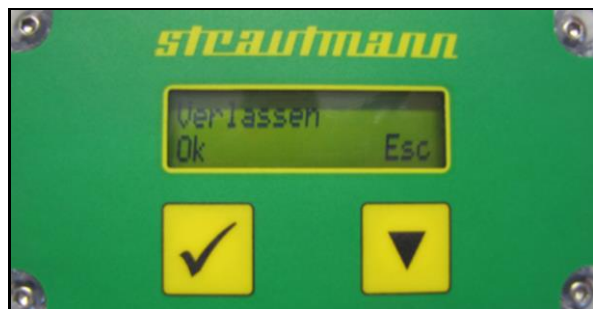

Fig. 93 „Verlassen?“ = Exit?
1. Press the right-hand key  in the **Settings** menu until the query **Exit?** (Fig. 93) appears.